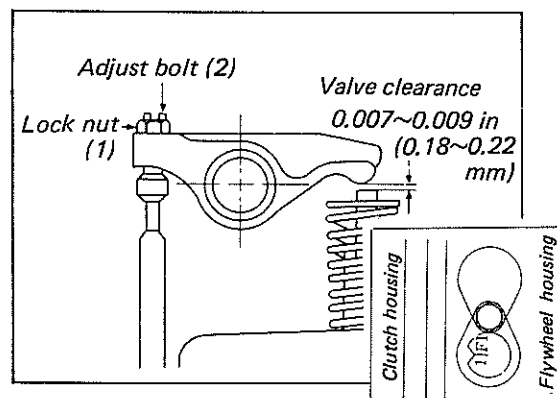

Fig. 17. Adjustment of Valve Clearance
ii. Referring to Fig. 17, loosen lock nut (1) and adjust clearance of rocker arm to valve stem to 0.007 to 0.009 in (0.18 to 0.22 mm) by thickness gage. After adjusting, tighten lock nut securely.
When the valve clearance has been adjusted as shown in Fig. 17, the standard valve timing shown in the chart can be attained: